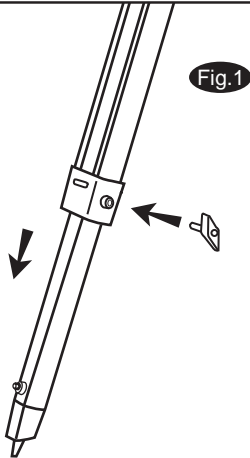

Fig.1
**ADJUSTING TRIPOD LEGS (Fig.1)**